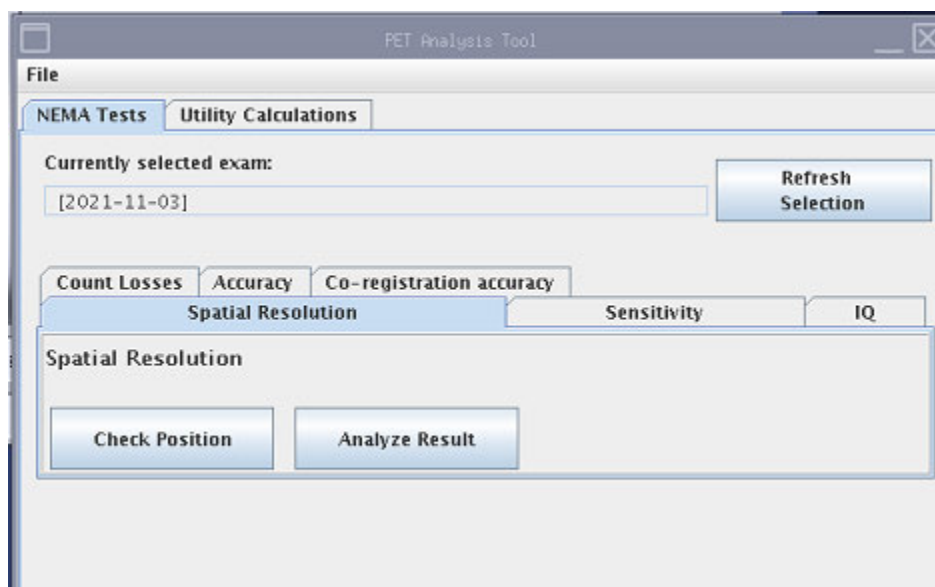

Figure 2.6: PET Analysis Tool - Spatial Resolution Tab Selected.
4. Click NEMA ANALYSIS TOOL to display the PET Analysis Tool shown in Figure 2.6.
5. Refer to Figure 2.6. If necessary, click the SPATIAL RESOLUTION tab to display the CHECK POSITION and ANALYZE RESULT buttons.
8. Refer to Figure 2.6. Click the CHECK POSITION button to prompt the system to analyze the point source position.
- d. Click NEMA ANALYSIS TOOL to display the PET Analysis Tool panel, shown in Figure 2.6. If necessary, click the SPATIAL RESOLUTION tab.
17. With the 1/8th FOV and Center FOV series highlighted in the Service browser, click ANALYZE RESULT to display a screen presented in Figure 2.6.